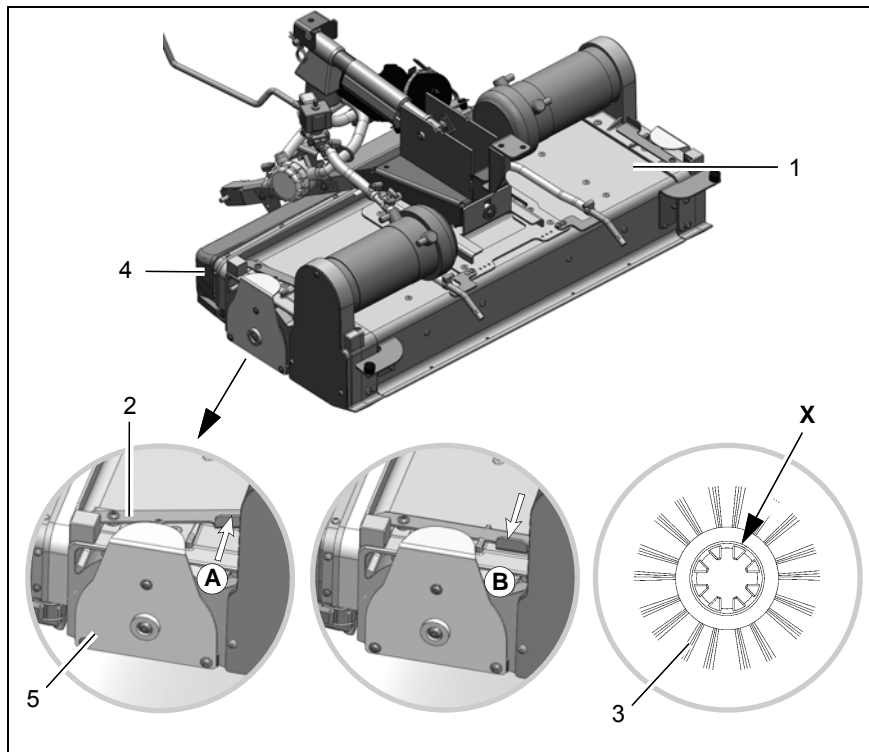

Fig. 26
Remove and empty the dirt hopper (Fig. 26/5) daily or as necessary.
Check the brushes (Fig. 26/3) on the cylindrical brush head (Fig. 26/1) weekly for signs of wear and change as necessary.
3. Unlock the brush holder (Fig. 26/5): Press the locking lever (Fig. 26/2) to position **A** and remove the brush holder.
4. Pull out the brush (Fig. 26/3) and check it.
2. Press the locking lever (Fig. 26/2) to position **A** and mount the brush holder.
3. Locking the brush holder (Fig. 26/1): Press the locking lever (Fig. 26/2) to position **B**.